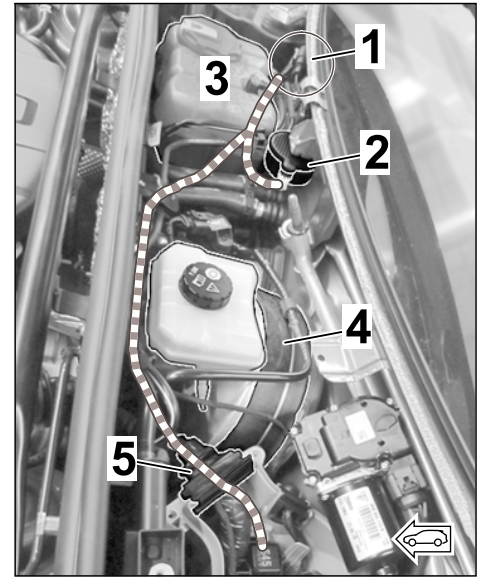

Figure 22
- 3 (2) – Coolant reservoir
- 4 (3) – Brake booster
- **LHD vehicles:** (⇒ *Figure 22*)